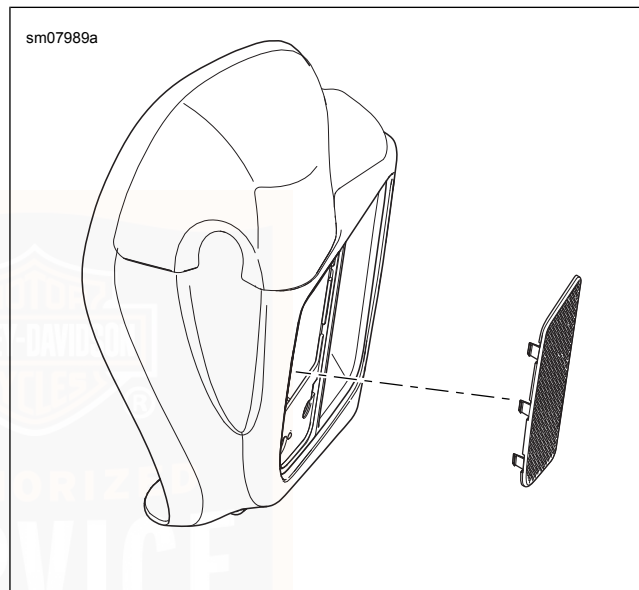

Figure 81. Lower Fairing Grille Panel
1. See Figure 81. Remove outer grille from lower fairing.